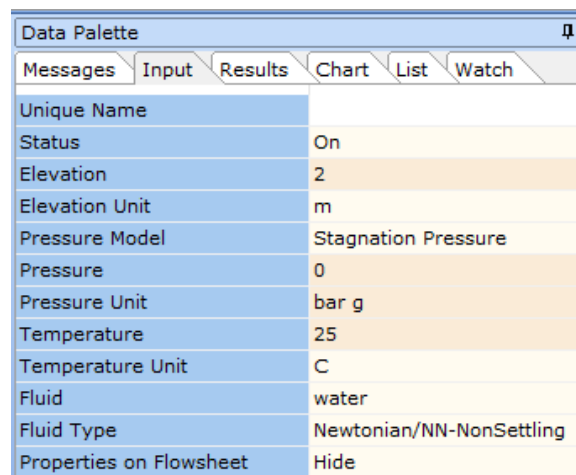

**Figure 12: Pressure Units.**
13. In this case we need to change the *Pressure Unit* from the default ***atm*** setting to ***barg***. Left mouse-click on the *Pressure Unit* field and you will see a drop-down arrow symbol appear on the right-hand side. Click on this symbol and a drop-down menu will appear showing the various units you can choose from. Select ***barg*** from the list (Figure 12). We have now successfully changed the pressure units for both nodes.